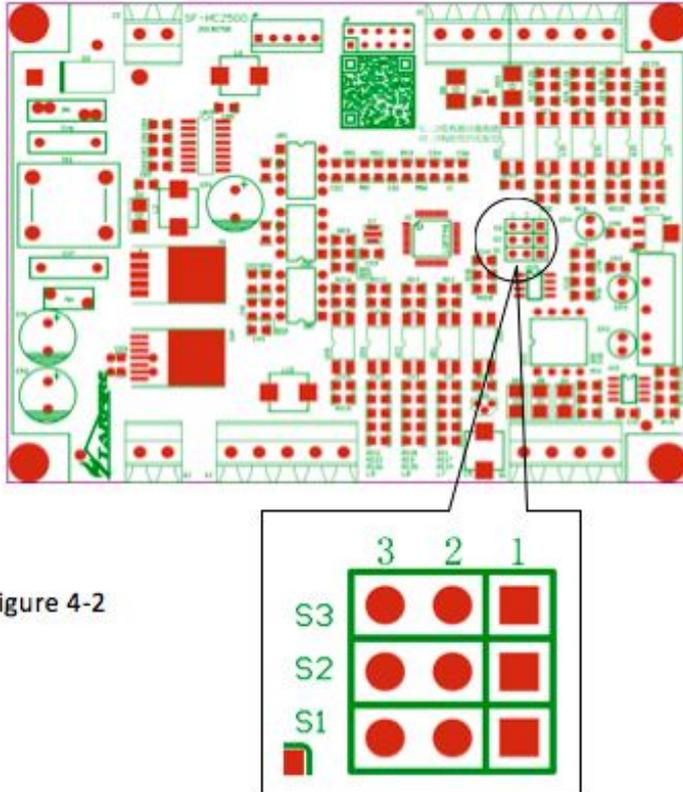

Figure 4-2
5. Set position limit switch logic, S1 jumper cap inserted between 1 and 2 for the low effective, suitable for use normally closed proximity switch. Inserted between 2 and 3 for the high effective suitable for open still proximity switch. The factory default for the low effective. Jumper on the panel position as shown in figure 4-2.
6. With or without positioning function setting, S2 jumper cap inserted in between 1 and 2 for positioning function. Inserted between 2 and 3 for no positioning function. Jumper on the panel position as shown in figure 4-2.